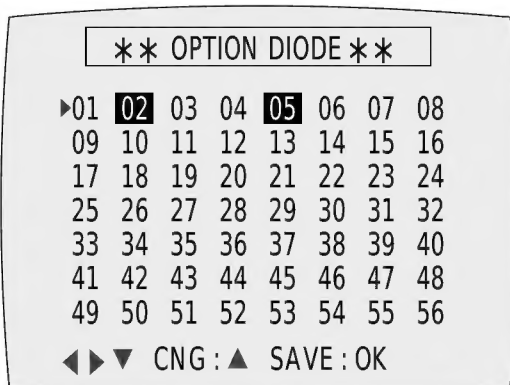

Fig. 2-4 (VCR)
- 2) Press the "MENU" button on the remote control about 5 seconds then option setting display is appeared. (See Fig. 2-4 and 2-5)
- 4) If selecting the option number is completed, press the "PLAY" button of remote control. (If "PLAY" button is pressed, the selected number is changes reversed color. ; See Fig. 2-4 and 2-5)